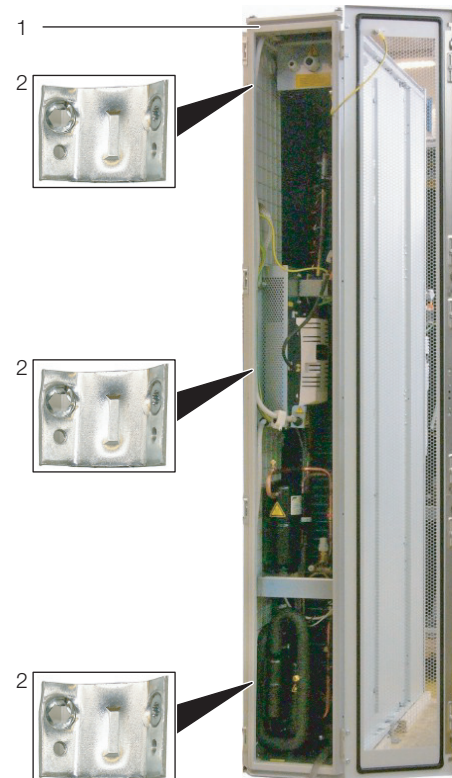

Fig. 17: LCP Rack DX – rear
- Using the corresponding assembly screws, fasten three baying connectors each (fig. 17, item 2) onto the attachment points provided in the mounting strips on the front and rear of the LCP DX (fig. 17, item 1).